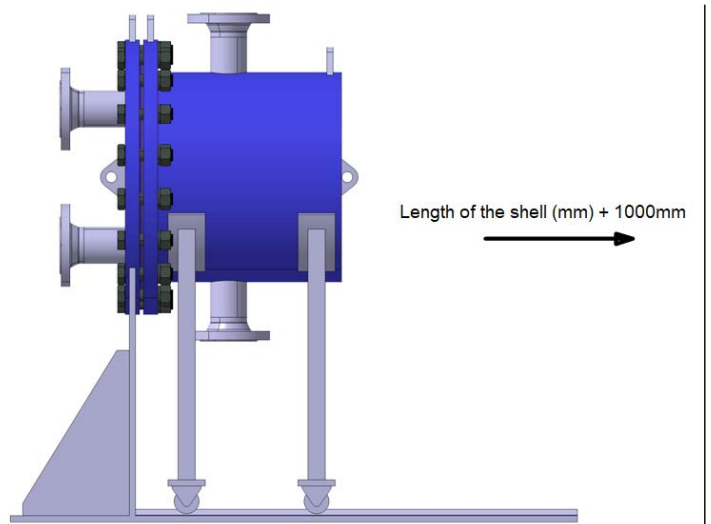

Figure 5. Required space from the back side
- In the case of a openable heat exchanger, a free space on the back side is also required. This space is the sum of the length of the shell and additional 1000 mm (Figure 5). The length of the shell is given in the technical documentation of the heat exchanger.